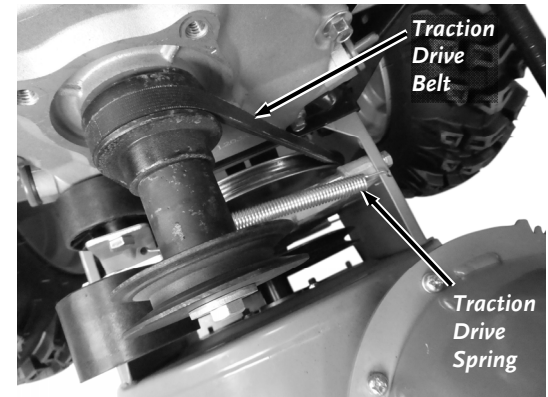

Figure 56
- Remove the Traction Drive Spring from the Frame using Pliers (**Figure 56**).